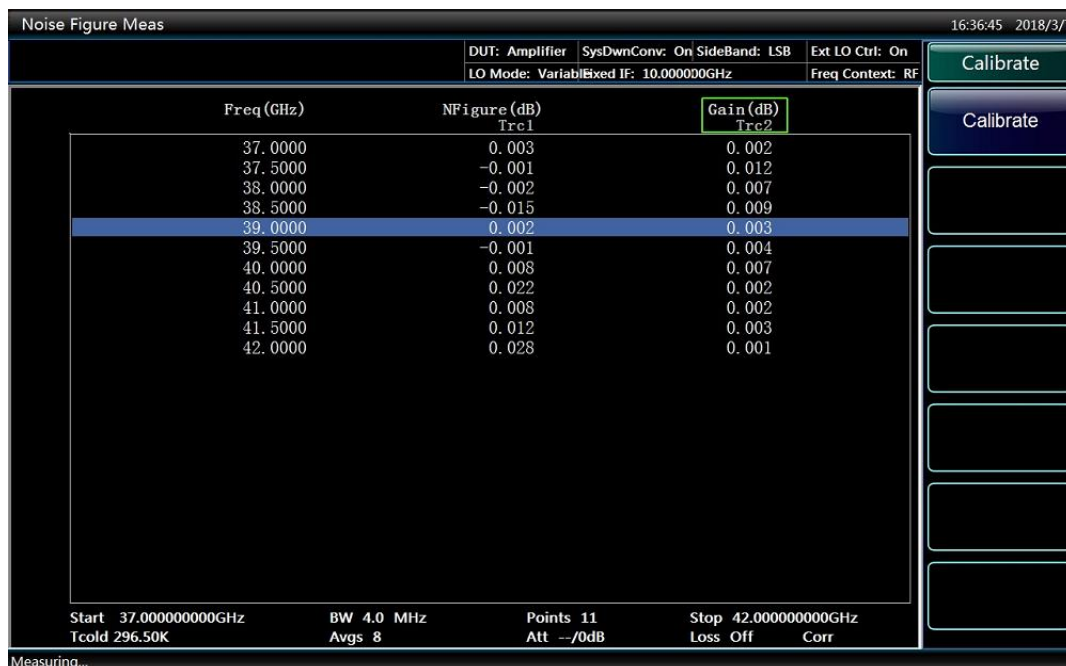

Figure 3.18 Typical Results after Calibration Displayed under the Downconverter Measurement Mode
Step 2. Press [Calibrate] menu key twice to calibrate. The first time you press the [Calibrate] key, you will be prompted to press it again. The typical results after calibration are displayed in table format as shown in Figure 3.18.